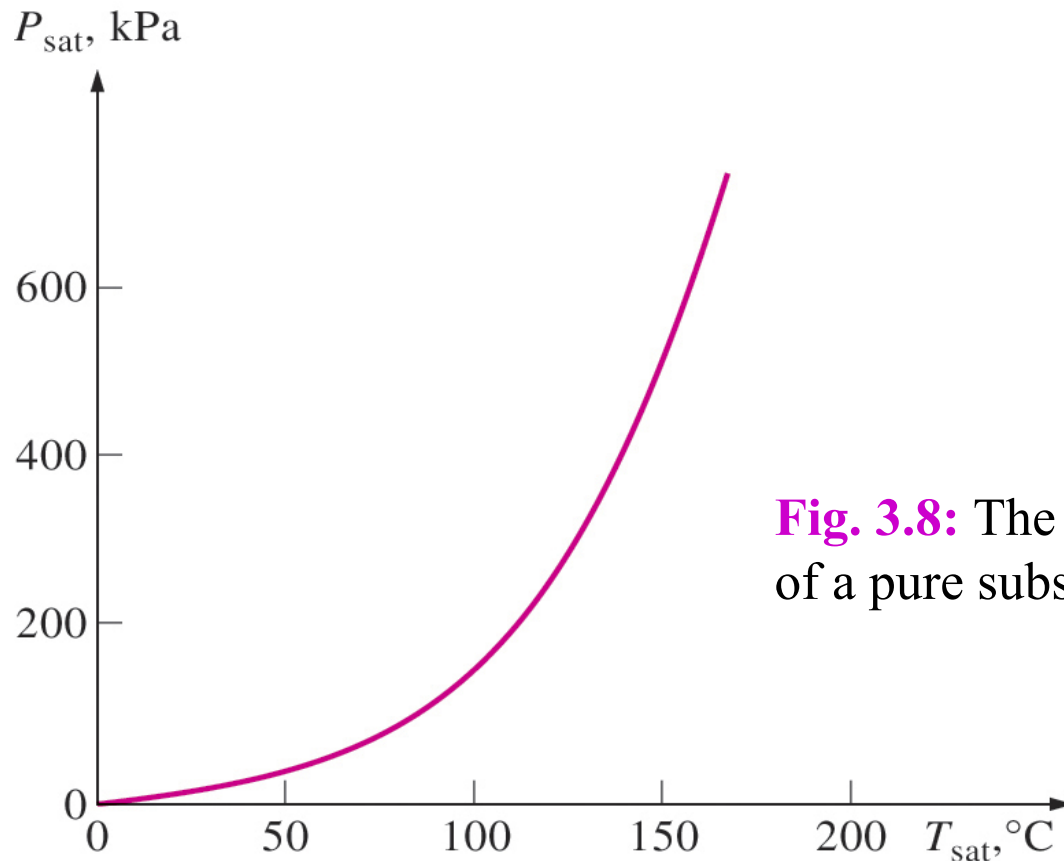

Fig. 3.8: The liquid–vapor saturation curve of a pure substance (water)
- A plot of T_{sat} versus P_{sat} , such as the one given for water in Fig. 3.8, is called a *liquid–vapor saturation curve*. A curve of this kind is characteristic of all pure substances.
- It is clear from Fig. 3.8 that T_{sat} increases with P_{sat} . Thus, a substance at higher pressures will boil at higher temperatures.